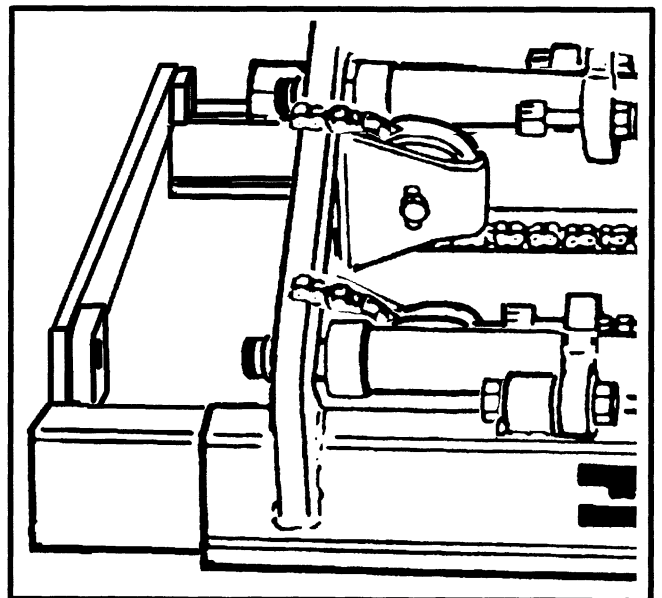

FIGURE 5. REMOVAL OF THE LIFT CYLINDERS
4. Remove the chain pins to disconnect the chain from the the chain anchor. Replace the rod end pin and cotter pin on the chain. See FIGURE 5.